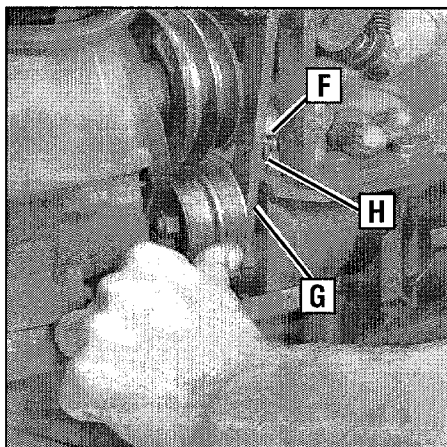

Figure 5-11: Remove clevis pin from outer hole in forward adjustable link and move to inner hole in link.
6. On the **left** side of the unit (as viewed from operator’s position) remove the hairpin cotter from the clevis pin (F, Figure 5-11) that connects the forward idler arm (G) to the forward adjustable link (H). Push inward on the forward idler arm (G) and remove the clevis pin (F).
7. There are two holes in the forward adjustable link (H, Figure 5-11). Push inward on the forward idler arm (G) and install the clevis pin (F) through the **inner** hole in the forward adjustable link (H) and out through the single hole in the forward idler arm (G). Secure the clevis pin with the hairpin cotter. **NOTE:** While pushing inward on the forward idler arm, be sure that the forward drive belt is moved off to the right side of the tiller. This creates more room to install the clevis pin when the forward idler arm is pushed inward.